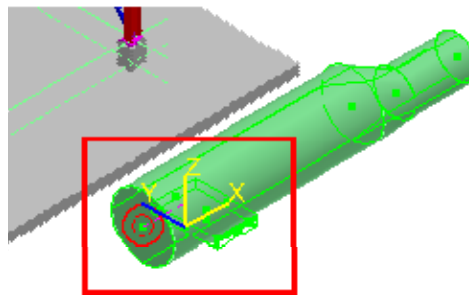

Figure 23: The Coordinates of the Rectangle as per Repositioned Target
20. Click the **Reposition Target** option on the **PinPoint** ribbon to change target to the end of the cylinder. Now, to place the first rectangle beneath the equipment object **E-102**, key in the coordinates as **4 ft** for **E**, **0 ft** for **N**, and **-2 ft** for **EL**. Figure 23 depicts the repositioned target and the rectangle to be placed.